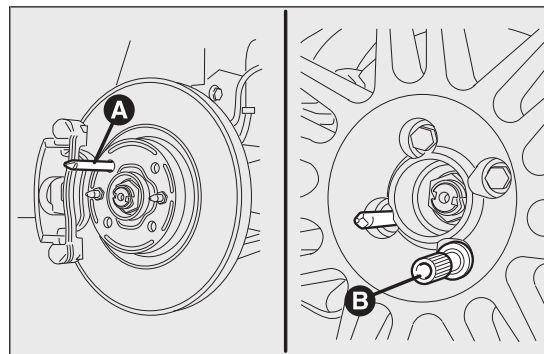

fig. 130
- tighten centering pin A fig. 130 in one of the fixing bolt openings on the wheel hub;